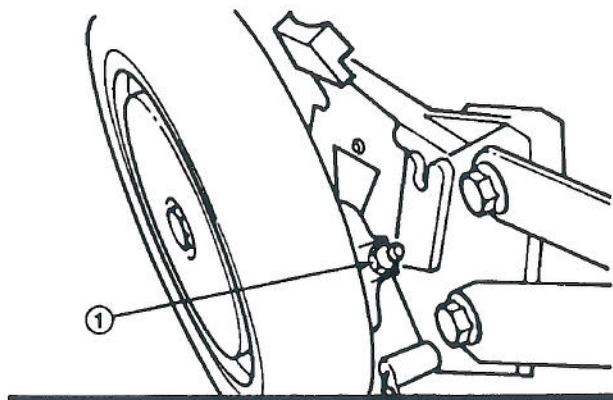

Figure 12
1. Set height-of-cut to center height setting (C).
3. Install grease gun onto fitting and gently apply grease (Fig. 12). (Approximately 2-3 pumps). Excessive grease pressure may damage seals.